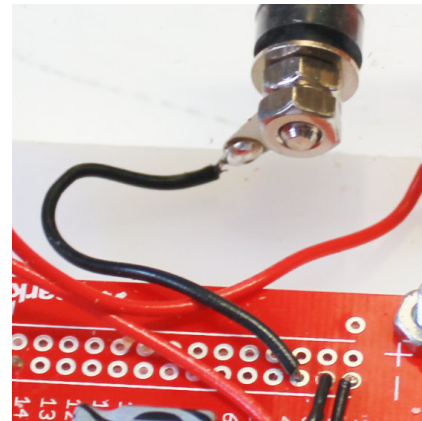

Figure 31
31. Remove the solder tab for the black binding post. Find the black wire connected to bottom negative power bus near the black binding post (see Figure 31). Strip free end of wire and solder to solder tab. Then reinstall the tab on the black binding post.